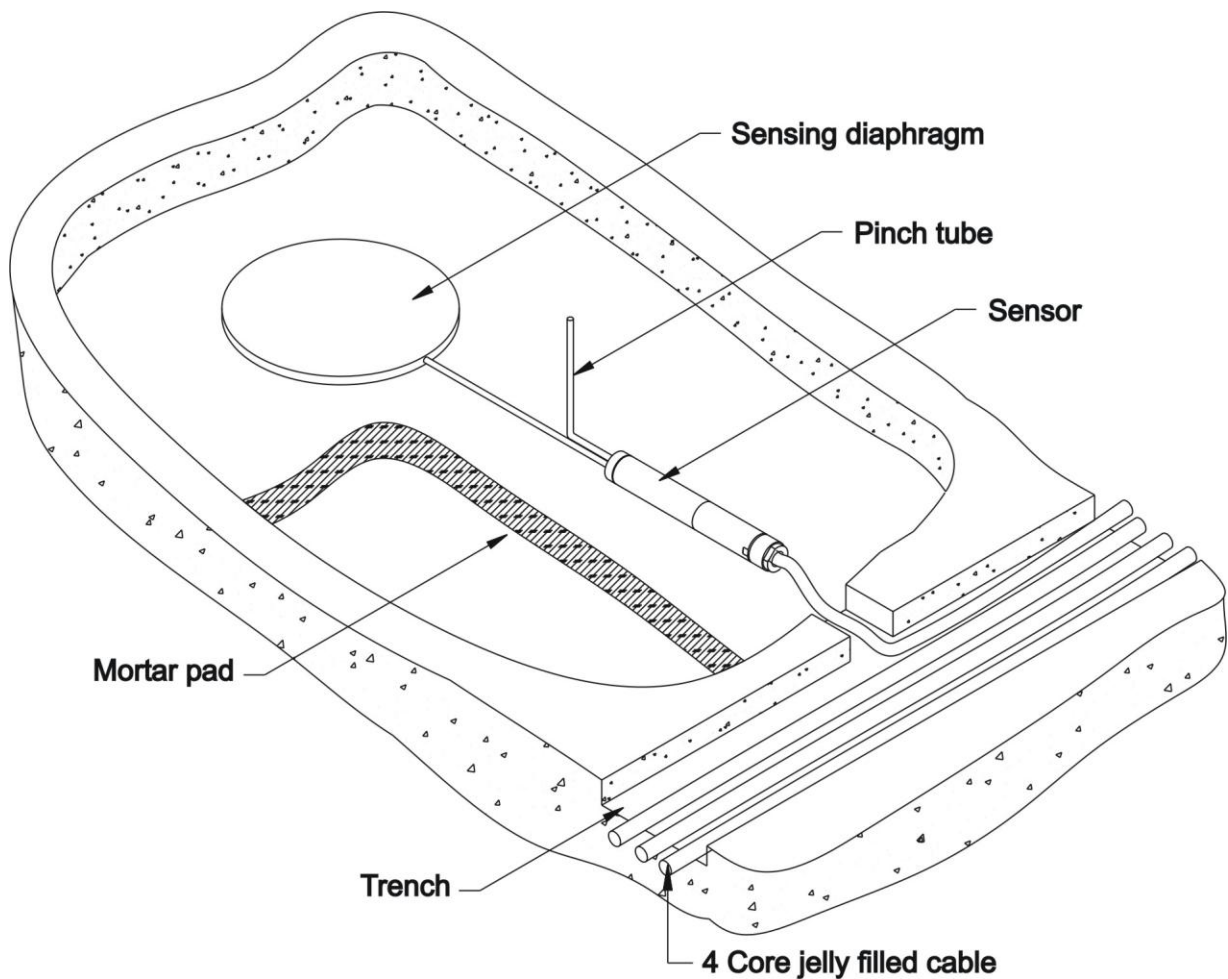

Figure 1.2
- b) Refer to fig. 1.2 for details of the cable trench/channel for routing the cable from the sensors. The cable from the sensors should be routed through a carefully marked channel trench ending into the vertical shaft and running parallel to the line of the sensors. The depth and width of the channel trench depends upon the number of cables the trench has to carry. In case all the cables at an elevation fit in one row, the depth of the channel can be around 10 cm. If more than one row is required to lay all the cables, the depth should be increased by 10 cm per row. The channel trench should be properly cleaned and leveled. Any sharp rocks or objects should be removed to prevent the cable from accidentally getting damaged when it is laid.